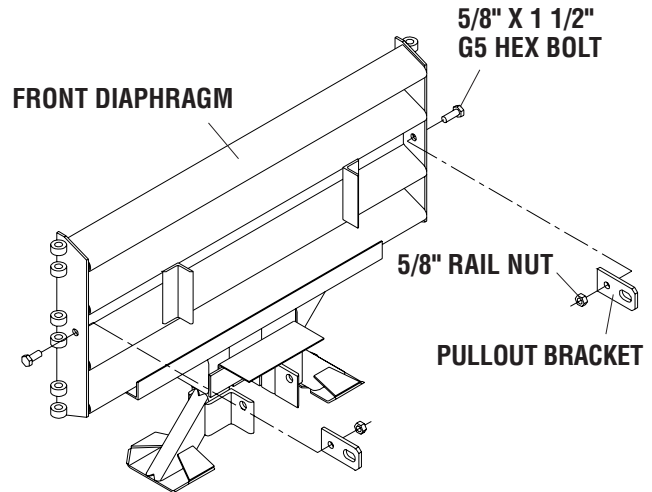

Figure 70
Install the nose assembly (see Figures 70 through 74 and the nose assembly drawing) in the following order:
- Step 1. (Figure 70) Attach pullout brackets to diaphragm with 5/8" x 1 1/2" hex bolts & 5/8" nuts 1 place each side.